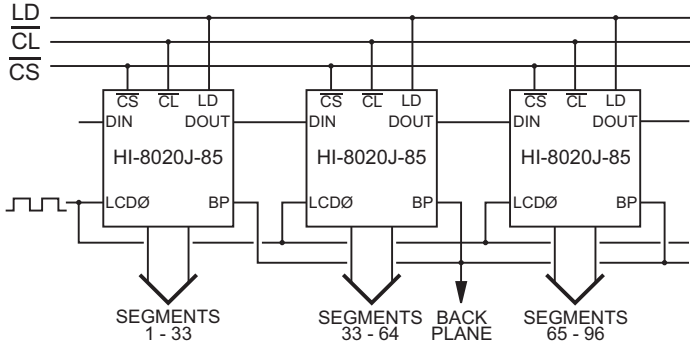

Figure 2
The backplane output functions in 1 of 2 modes; externally driven or self-oscillating. When the LCD \emptyset input is externally driven with the LCD \emptyset OPT input open circuit (Figure 2), the backplane output will be in-phase with LCD \emptyset . Utilizing the self-oscillating mode, inputs LCD \emptyset and LCD \emptyset OPT are tied together and connected to an RC circuit (Figure 3). A 150K Ω resistor with a 470pF capacitor generates an approximate backplane frequency of 100Hz. The LCD \emptyset /LCD \emptyset OPT oscillator frequency is divided by 256 to determine the backplane output frequency. The resistor value (R) must be at least 30K Ω for proper self-oscillator operation.
For displays having a number of segments greater than 38, two or more of the display drivers may be cascaded together by connecting the serial data output (DOUT) from the first driver, to the serial data input (DIN) of the following driver, etc.(See Figures 2 & 3). Data out (DOUT) will change state